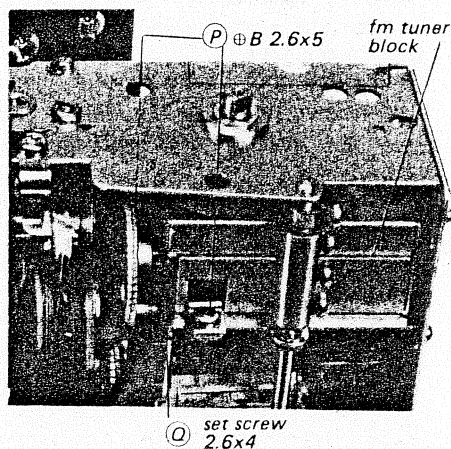

Fig. 2-14
2. Remove the two screws ($\oplus B 2.6 \times 5$) marked $\textcircled{P}$ in Fig. 2-14.
3. Loosen the two dial-tuning gear set screws (2.6×4) marked $\textcircled{Q}$ in Fig. 2-14.